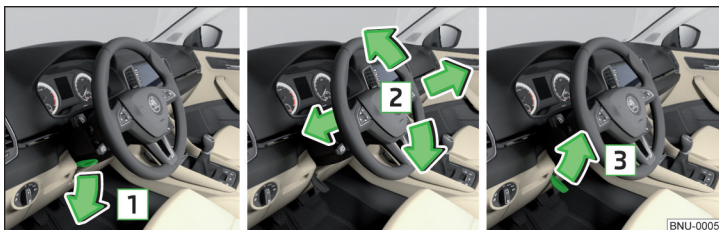

Fig. 16 Adjusting the steering wheel position
- Swing the safety lever under the steering wheel in the direction of arrow  » Fig. 16.